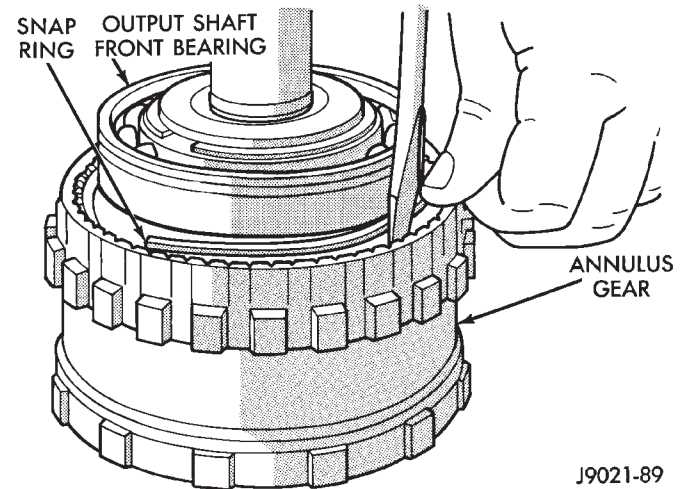

Fig. 38 Installing Annulus Gear And Snap Ring
(4) Install front bearing and bearing snap ring on output shaft (Fig. 38)
(5) Align and install annulus gear on output shaft (Fig. 38).
(6) Install annulus snap ring (Fig. 38).